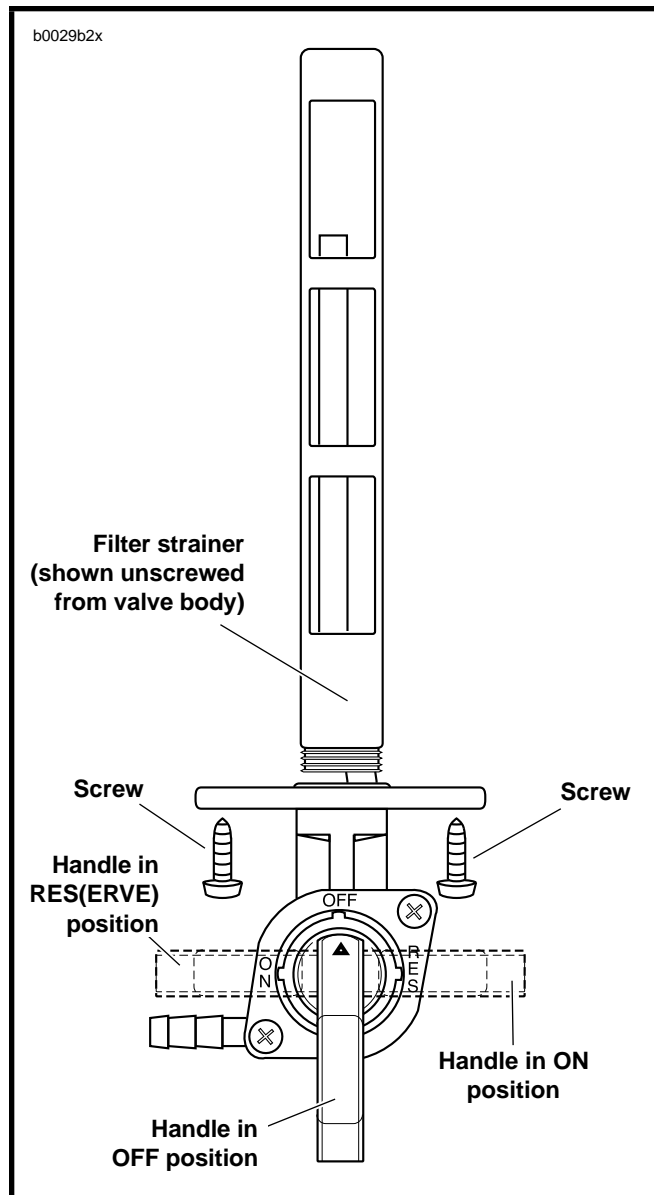

Figure 4-23. Fuel Supply Valve
1. See Figure 4-23. Turn fuel supply valve OFF.
1. See Figure 4-23. Attach fuel supply valve to tank with two screws. Tighten to 34-37 in-lbs (3.8-4.2 Nm).